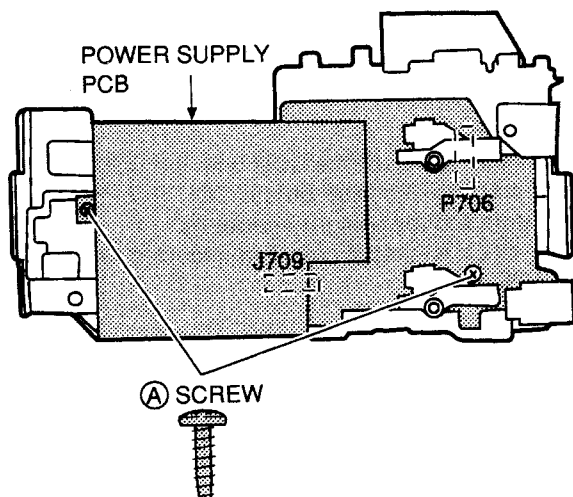

Fig. 3-1
1. Remove the two (A) screws which retain the POWER SUPPLY PCB as shown in Fig. 3-1.